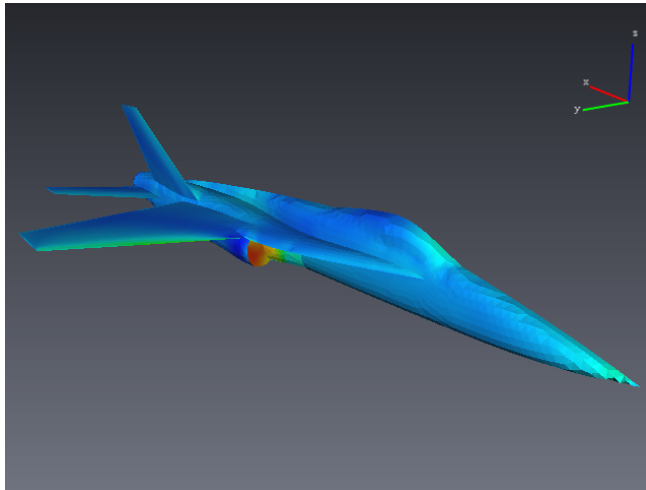

Figure 11.75: Pressure field on the boundaries of a YF-17 Cobra aircraft.
- Enlarge the view and rotate it in order to get a better image of the aircraft (see Figure 11.75).